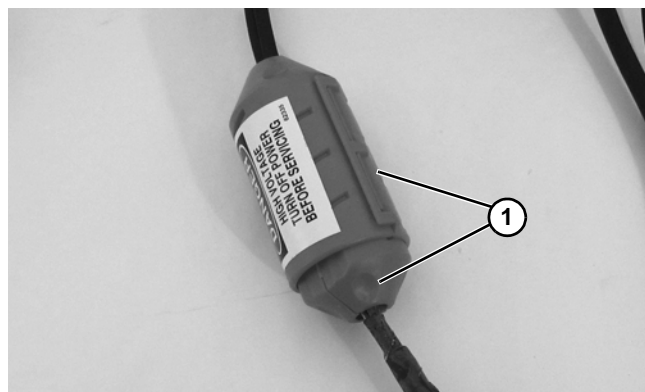

Figure 29
1. Twist covers (**Figure 29, item 1**) apart.